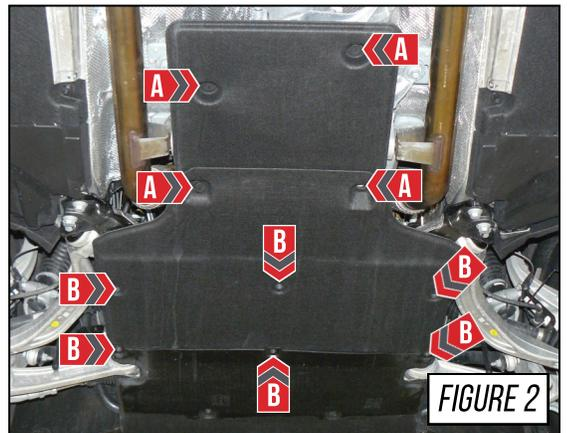

FIGURE 2
The remainder of the removal process takes place under the car. Removing the belly pan is accomplished by removing the fasteners as shown by the arrows in **Figure 2**.
Four (4) quick release fasteners, at **Arrows A** in **Figure 2**.
Six (6) quarter-turn fasteners, at **Arrows B** in **Figure 2**.